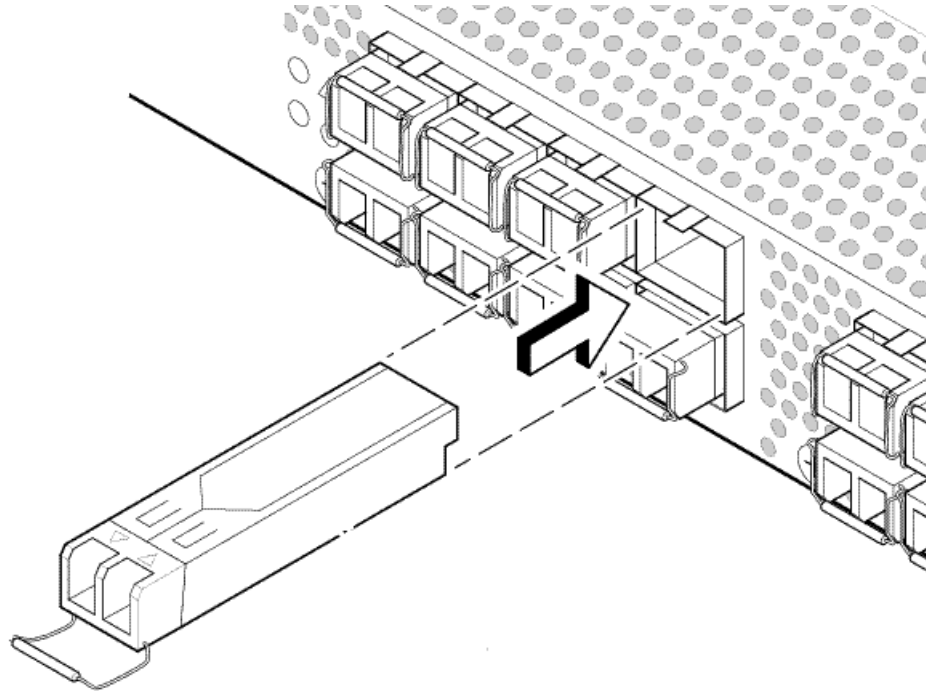

FIGURE 5 Installing an SFP in the upper row of port slot
1. Making sure that the bail (wire handle) is in the unlocked position, place the SFP in the correctly oriented position on the port, as shown in Figure 5.